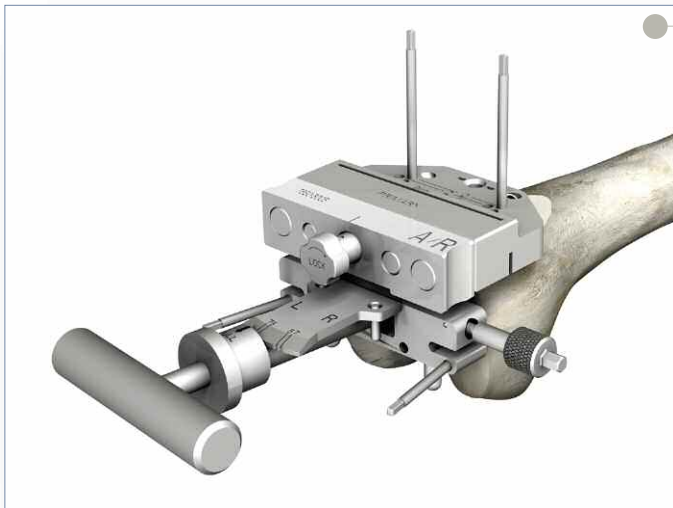

Figure 23
- ▶ Once secured (**Figure 23**) remove the Distal Femoral Alignment Guide by first removing the 1/8" pins in the distal femur. Remove the IM Rod, then slide out the Distal Femoral Alignment Guide and Distal Resection Guide Stand, leaving only the Distal Resection Guide in place.